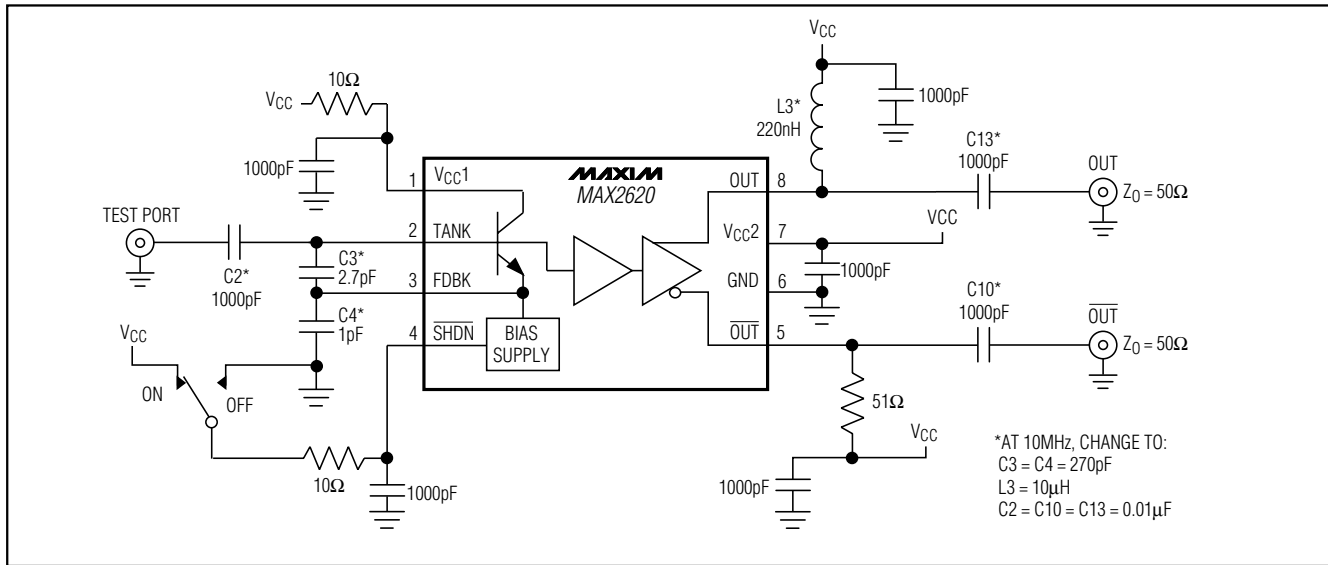
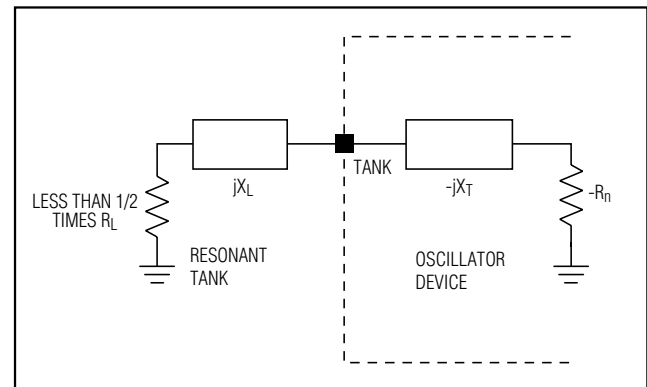

Figure 1. 900MHz Test Circuit
Figure 2. Simplified Oscillator Circuit Model
(Test Circuit of Figure 1, V_{CC} = +3.0V, $\overline{\text{SHDN}}$ = V_{CC}, Z_{LOAD} = Z_{SOURCE} = 50Ω, P_{IN} = -20dBm (50Ω), f_{TEST} = 900MHz, T_A = +25°C, unless otherwise noted.)
(Test Circuit of Figure 1, $V_{CC} = +3.0V$, $\overline{SHDN} = V_{CC}$, $Z_{LOAD} = Z_{SOURCE} = 50\Omega$, $P_{IN} = -20dBm/50\Omega$, $f_{TEST} = 900MHz$, $T_A = +25^\circ C$, unless otherwise noted.)
*SEE FIGURE 1
At the frequency of interest, the MAX2620 portion of Figure 2 shows the one-port circuit model for the TANK pin (test port in Figure 1).
For the circuit to oscillate at a desired frequency, the resonant tank circuit connected to TANK must present an impedance that is a complement to the network (Figure 2). This resonant tank circuit must have a positive real component that is a maximum of one-half the magnitude of the negative real part of the oscillator device, as well as a reactive component that is opposite in sign to the reactive component of the oscillator device.
Both of the MAX2620's outputs (OUT and $\overline{\text{OUT}}$) are open collectors. They need to be pulled up to the supply by external components. An easy approach to this pull-up is a resistor. A 50 Ω resistor value would inherently match the output to a 50 Ω system. The *Typical Operating Circuit* shows $\overline{\text{OUT}}$ configured this way. Alternatively, a choke pullup (Figure 1), yields greater output power (approximately -8dBm at 900MHz).